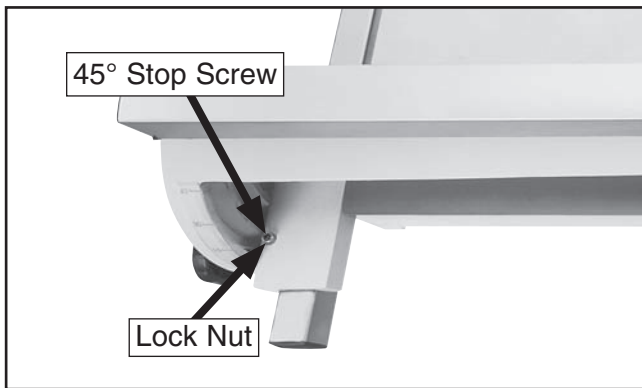

Figure 10. Adjusting fence 45° outward.
2. Loosen the lock nut on the 45° fence stop screw (see **Figure 10**).